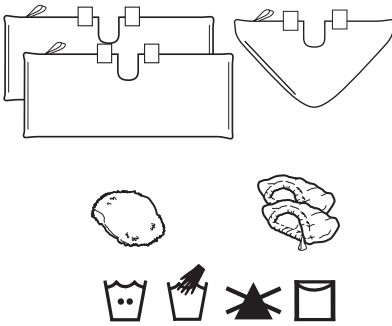

fig. 30
- 1 We recommend washing your micro-fiber cleaning pad separately from other fabrics to avoid picking up lint. **Only use liquid detergent (no powder detergent). Do not use any fabric softeners or bleach.** Line dry or dry on a low dryer setting. (fig. 30)